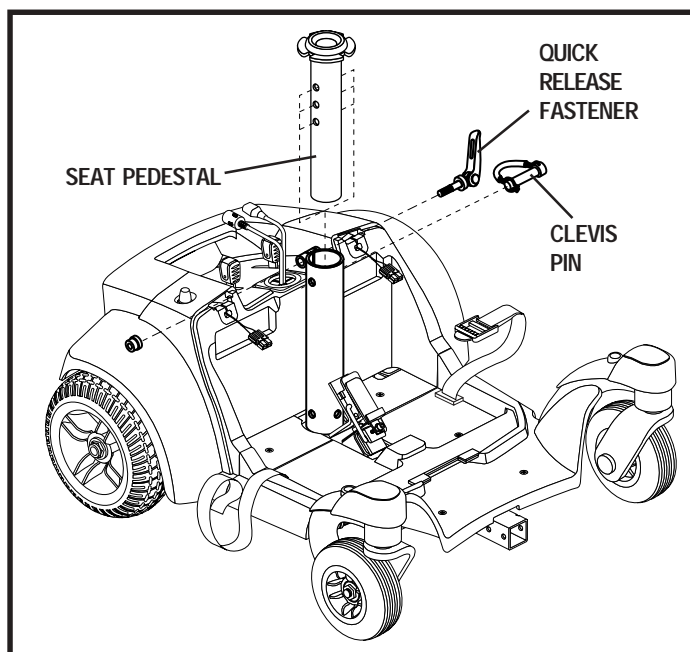
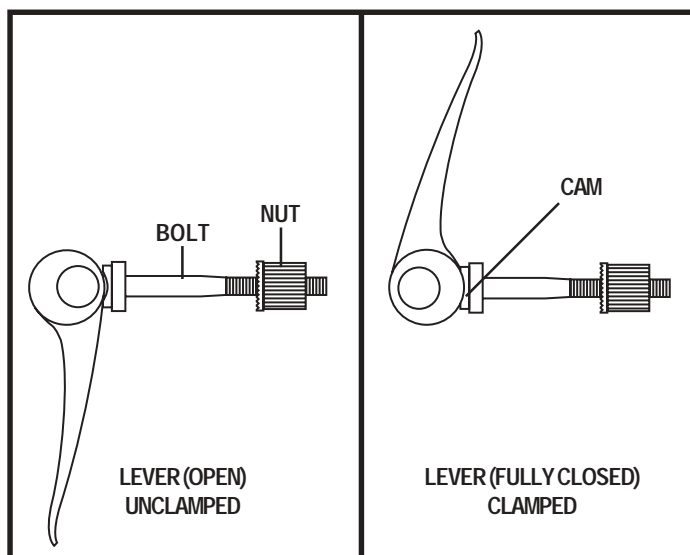

Figure 10. Seat Height Adjustment
Figure 11. Quick Release Fastener Operation
4. Loosen the quick release fastener. See figure 10.
8. Tighten the quick release fastener. See figure 11.
The quick release fastener removes excess play in the seat pedestal. See figure 10. The quick release fastener consists of a bolt, a lever and a nut. See figure 11. The lever has a cam on the end that allows it to clamp into place. The quick release fastener has two states: clamped and unclamped. When the lever is open, the quick release fastener is unclamped. When the lever is closed, the quick release fastener is clamped.